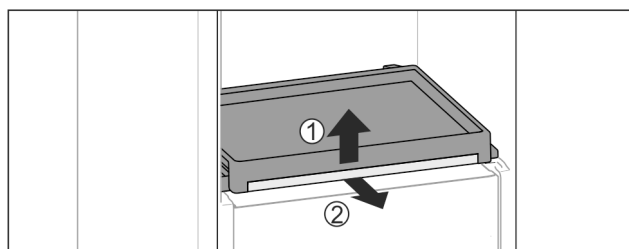

Fig. 42
- To remove the pull-out board with glass panel: Gently lift the glass panel at the front Fig. 42 (1) and pull out to the front Fig. 42 (2).